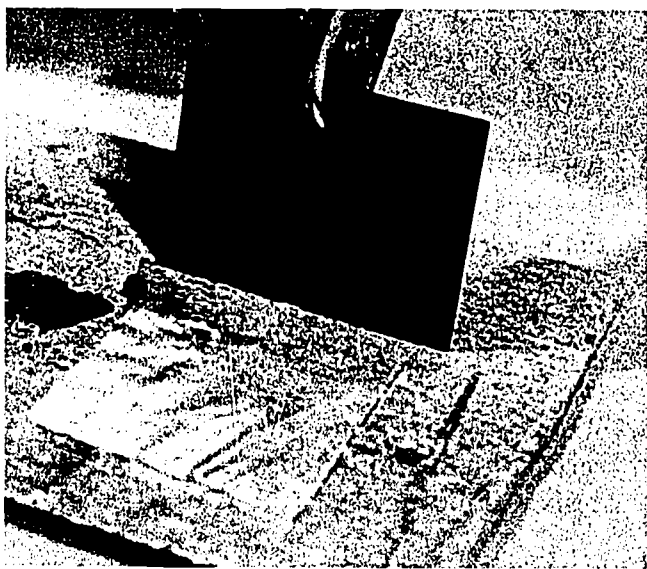

Fig. 119-2. Bonding Plastic
3. Demonstrate how the metal is held while heating (see Fig. 119-1), and how to place the edge of the metal on the plastic to create a bond. Heat the piece of metal for 30 seconds. Then place it on the two plastic squares to create a bond. See Fig. 119-2. *Caution students not to overheat the metal.*